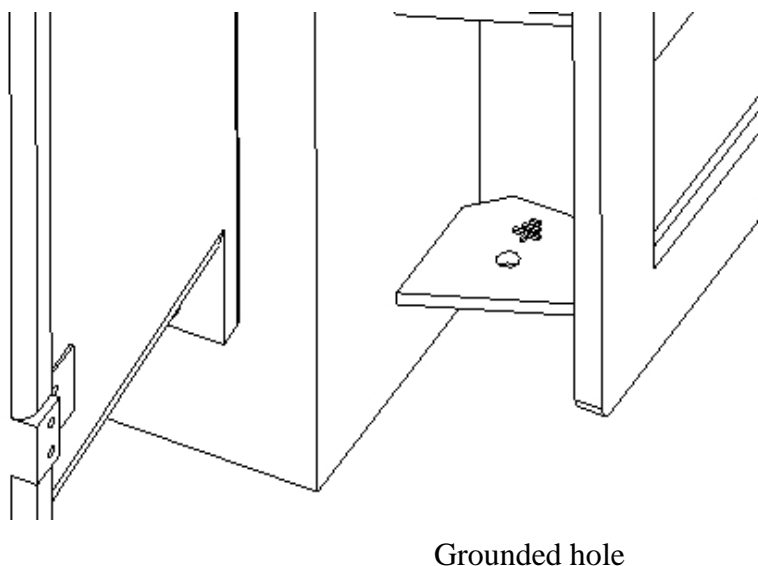

Fig. 13 Tap changer to ground
1. Connect the grounded bolt of tap changer cabinet to the transformer tank (1 M12 bolt and nut), №19 spanner, torque 50~60Nm, Fig.13;